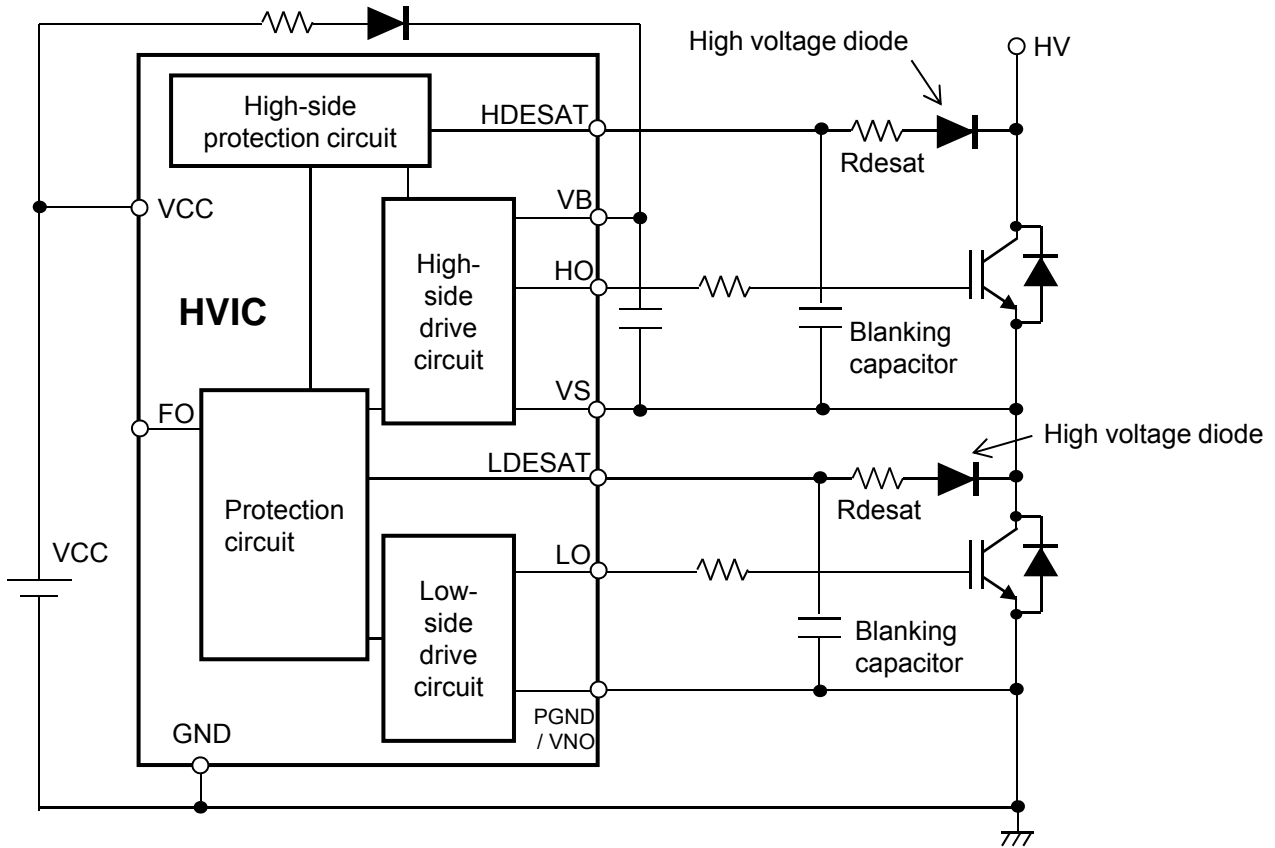
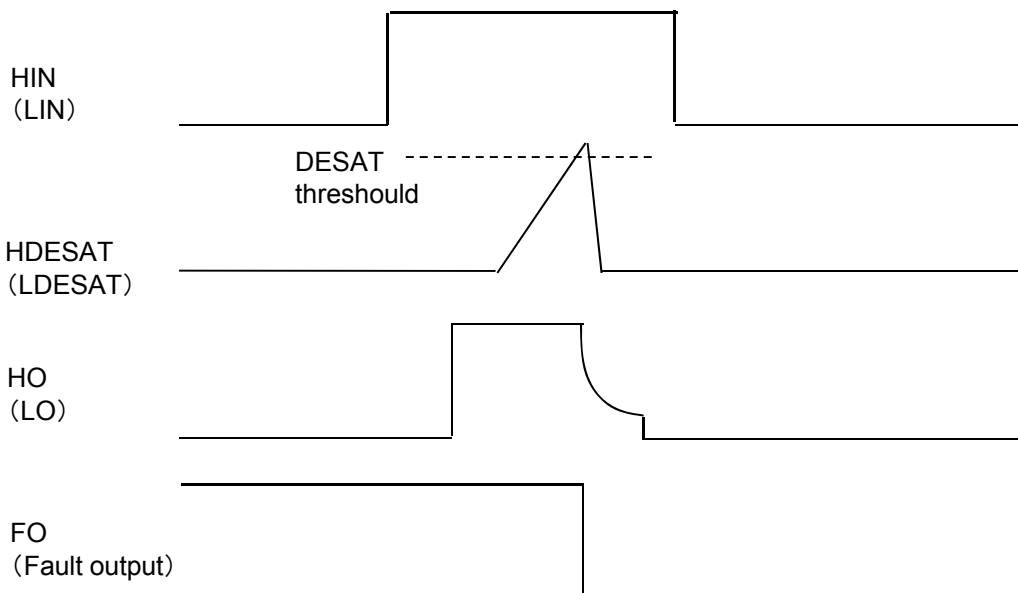

Fig.20 Connection example using desaturation method
Fig.21 Timing chart using desaturation method
Fig.20 shows connection example using desaturation method. Fig.21 shows the timing chart.
Cblank indicates the blanking capacitor in Fig.20. The t₀ blanking time is set in HVIC. So when Cblank equals 0(pF), the blanking time is t₀. Please refer to the DESAT threshold, Idesat and t₀. Please set the blanking capacitor using (2) expression according to the blanking time to be set.